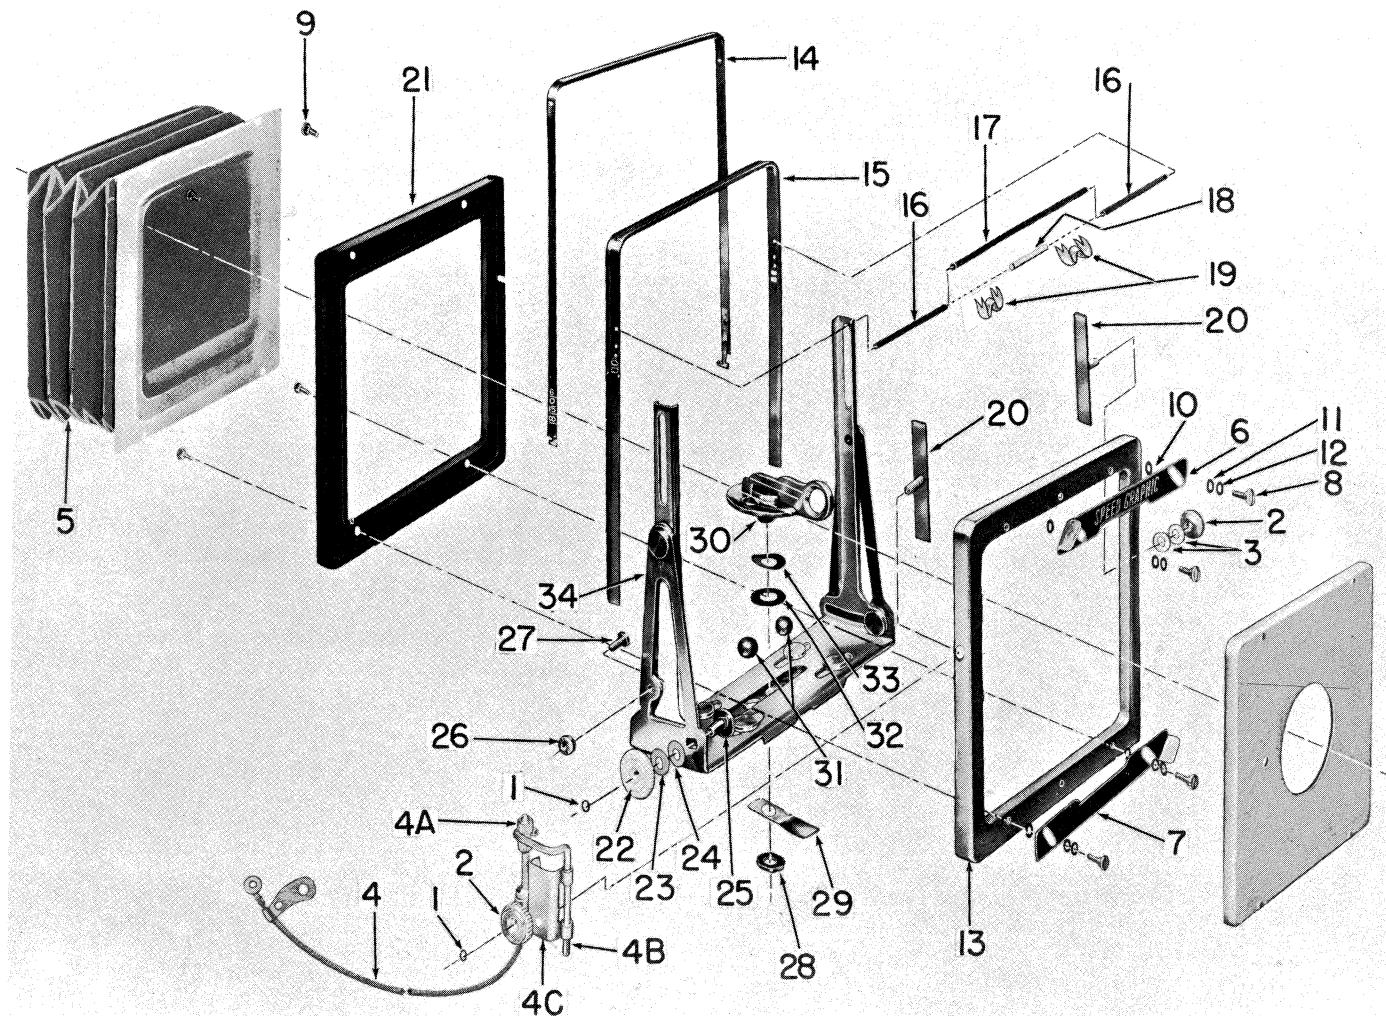

Figure 8. Front Standard, Exploded View
Note: If it is not necessary to remove the bellows assembly (5, figure 8), slide the front standard from the bed and proceed with paragraph C.
(f) Remove the bellows from the frame and support section by removing the lower slide lock (7, figure 8) that is secured by two slide lock screws (8). Swing the lower edge of the front bellows frame back and drop the upper edge free from the slide lock nut head.
2. Cable Release Assembly Removal. To replace the cable release assembly (4) proceed as follows:
(a) Remove the knob retaining ring (1, figure 8), used on early models, from each side of the frame clamp rising front knob (2) and unscrew the knob of each side of the frame. Later models have stud threads staked. Remove the upper and lower lensboard lock (6 and 7) that are attached by slide lock screws (8), flat washers (10 and 11) and spring washers (12).
infinity stops and lock. Check the height with indicator at each corner and adjust the eccentrics (27, figure 8) or relocate the infinity stop (19 or 20, figure 1).
3. Inspect the finder (14, figure 8) and finder frame (15) for squareness. If the detent holes of the finder frame (15) have become worn by the finder plungers (16), replace the finder frame in order to hold in the desired parallax height.
1. Lateral Shift and Lock Lever. Assemble the lever assembly spring washer and the flat washer to the lever assembly (30, figure 8). Fit the two steel balls (31) into their position between the lever assembly (30) and the standard support assembly (34) and thread the lever assembly stud through the standard support assembly. Lay the shift locking spring (29) in position and assemble the special hexagon nut (28).
2. Adjusting Lock Lever. Check the front standard to determine how tightly it will lock by placing on the sliding yoke of the bed and setting the lock lever (30). It should clamp tightly enough to prevent slippage when the bellows and lens are assembled. To tighten the lock lever, loosen the lock nut (28) on the bottom side and turn the screw in a counter clockwise direction; to loosen the lock, turn the screw in a clockwise direction and then tighten the nut.
3. Lensboard Frame and Sight Reassembly. Lubricate the flat surface of each front frame clamp plate assembly (20) with grease, AN-G-6. Lubricate the sliding areas of the finder (14) and the finder frame (15) with grease, AN-G-6.
(d) Thread the manual trip bracket (4, figure 8) through the bellows hangers and mount the bracket over the right front frame clamp plate stud. Assemble the frame clamp knob (2) and peen the first thread of the stud at one point.
(a) The manual trip clamp (16, figure 1) is clamped to the manual trip rod (4B, figure 8) and the relationship of the manual trip clamp to the shutter release lever is adjusted by means of the twin cable release nuts (4A).